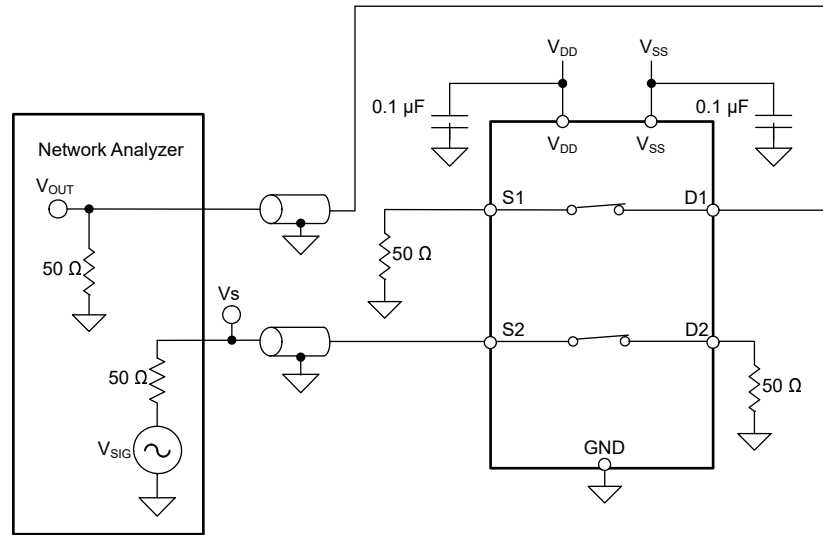

图 7-9. Crosstalk Measurement Setup
Crosstalk is defined as the ratio of the signal at the drain pin (D) of a different channel, when a signal is applied at the source pin (Sx) of an on-channel. 图 7-9 shows the setup used to measure, and 方程式 3 shows the equation used to calculate crosstalk.